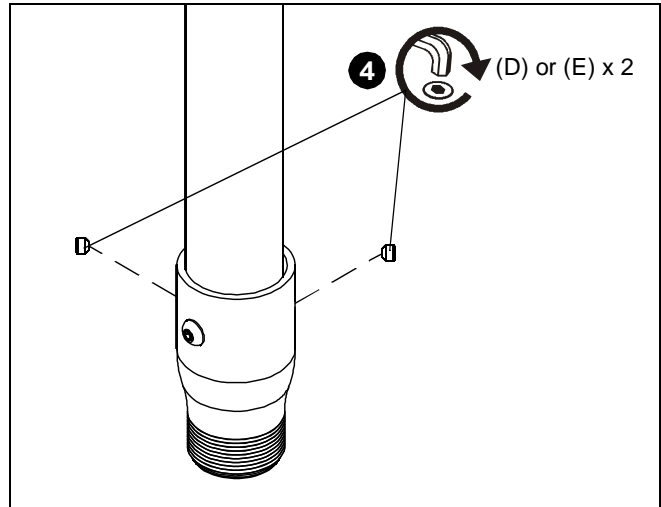

Figure 3
4. Attach and tighten two 5/16 x 1/4" set screws (D) or two 5/16 x 1/4" security set screws (E) into side of CMS-260 (A). (See Figure 3)